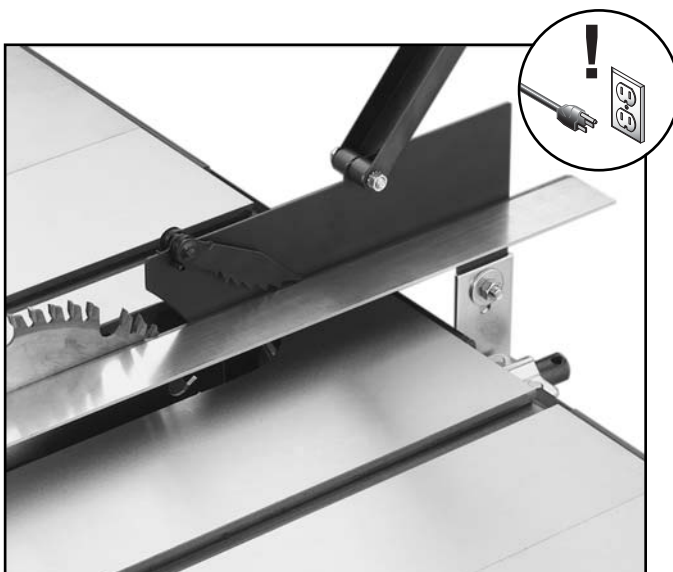

Figure 19. Guard in line with blade.
4. Next, set a straightedge against the face of the saw blade and the blade splitter as shown in **Figure 19**. If the blade splitter is properly aligned, please skip ahead to **Page 26**; otherwise, continue with the next step.